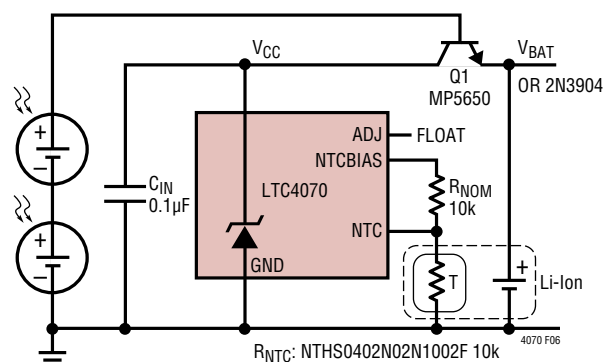

Figure 6. Photovoltaic Charger with Extremely Low Leakage When Not Charging
A photovoltaic (PV) application for the LTC4070 is illustrated in Figure 6. In this application, transistor Q1 has been added to further reduce the already low quiescent current of the LTC4070 to achieve extremely low battery discharge when the PV cells are not charging the battery. In long battery life applications, Q1 isolates the battery from the LTC4070 when Q1's base voltage falls. Under normal operation, the PV cells provide current through
The PV application schematic in Figure 6 also illustrates using the LTC4070 with a 10k, 5% curve 2 type NTC thermistor, NTHS0402N02N1002F. Here R_{NOM} is 10k, and the rising temperature trip points are 40°C, 50°C, 60°C and 70°C.